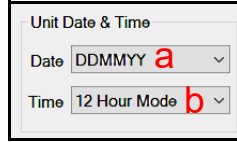

Figure 6 DSA Main Screen Unit Date & Time Group
The Unit Date & Time Group (Figure 6) includes the following functions (fields):
- **Date:** The Date data field (Figure 6 a) displays the currently-selected format to be used when the Date is:
- **Time:** The Time data field (Figure 6 b) displays the currently-selected format to be used when the Time is